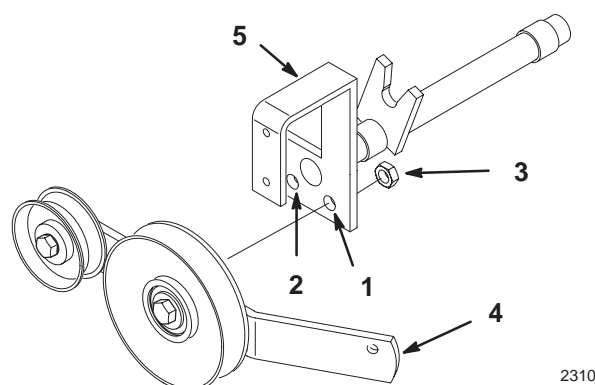

Figure 14
1. Check mounting location of idler arm in hole of idler bracket (Fig. 14). Correct location is as follows:
2. If necessary, remove the lock nut (3/8 inch) (Fig. 14) and change idler arm hole location. Secure idler arm with same lock nut.